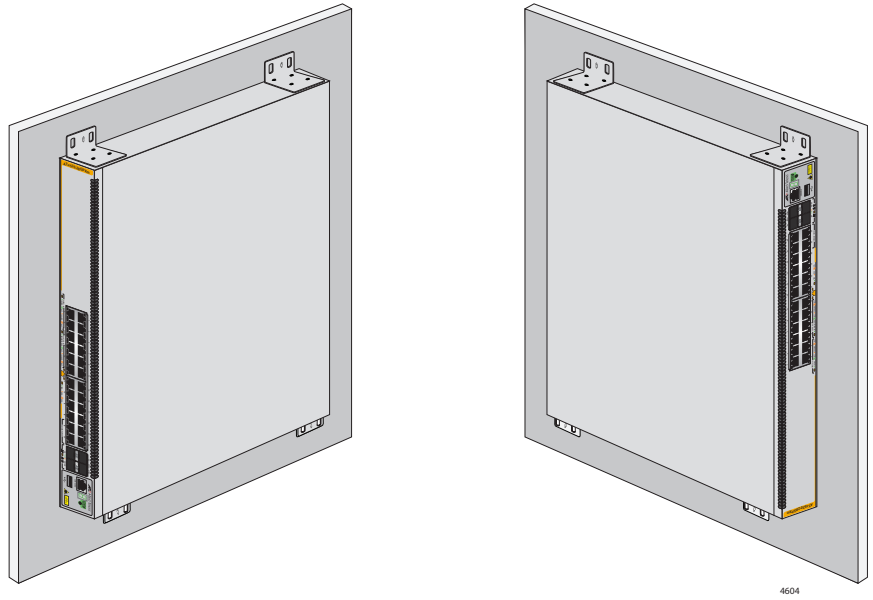

Figure 30. Positioning the x530-10GHXm, x530-18GHXm, x530-28GPXm, x530-52GTXm, or x530-52GPXm Switch on the Wall
- ❑ Install the x530-10GHXm, x530-18GHXm, x530-28GPXm, x530-52GTXm, or x530-52GPXm switch on a wall with the front panel facing left or right, as shown in Figure 30. Do not install the switch with the front panel facing up or down.